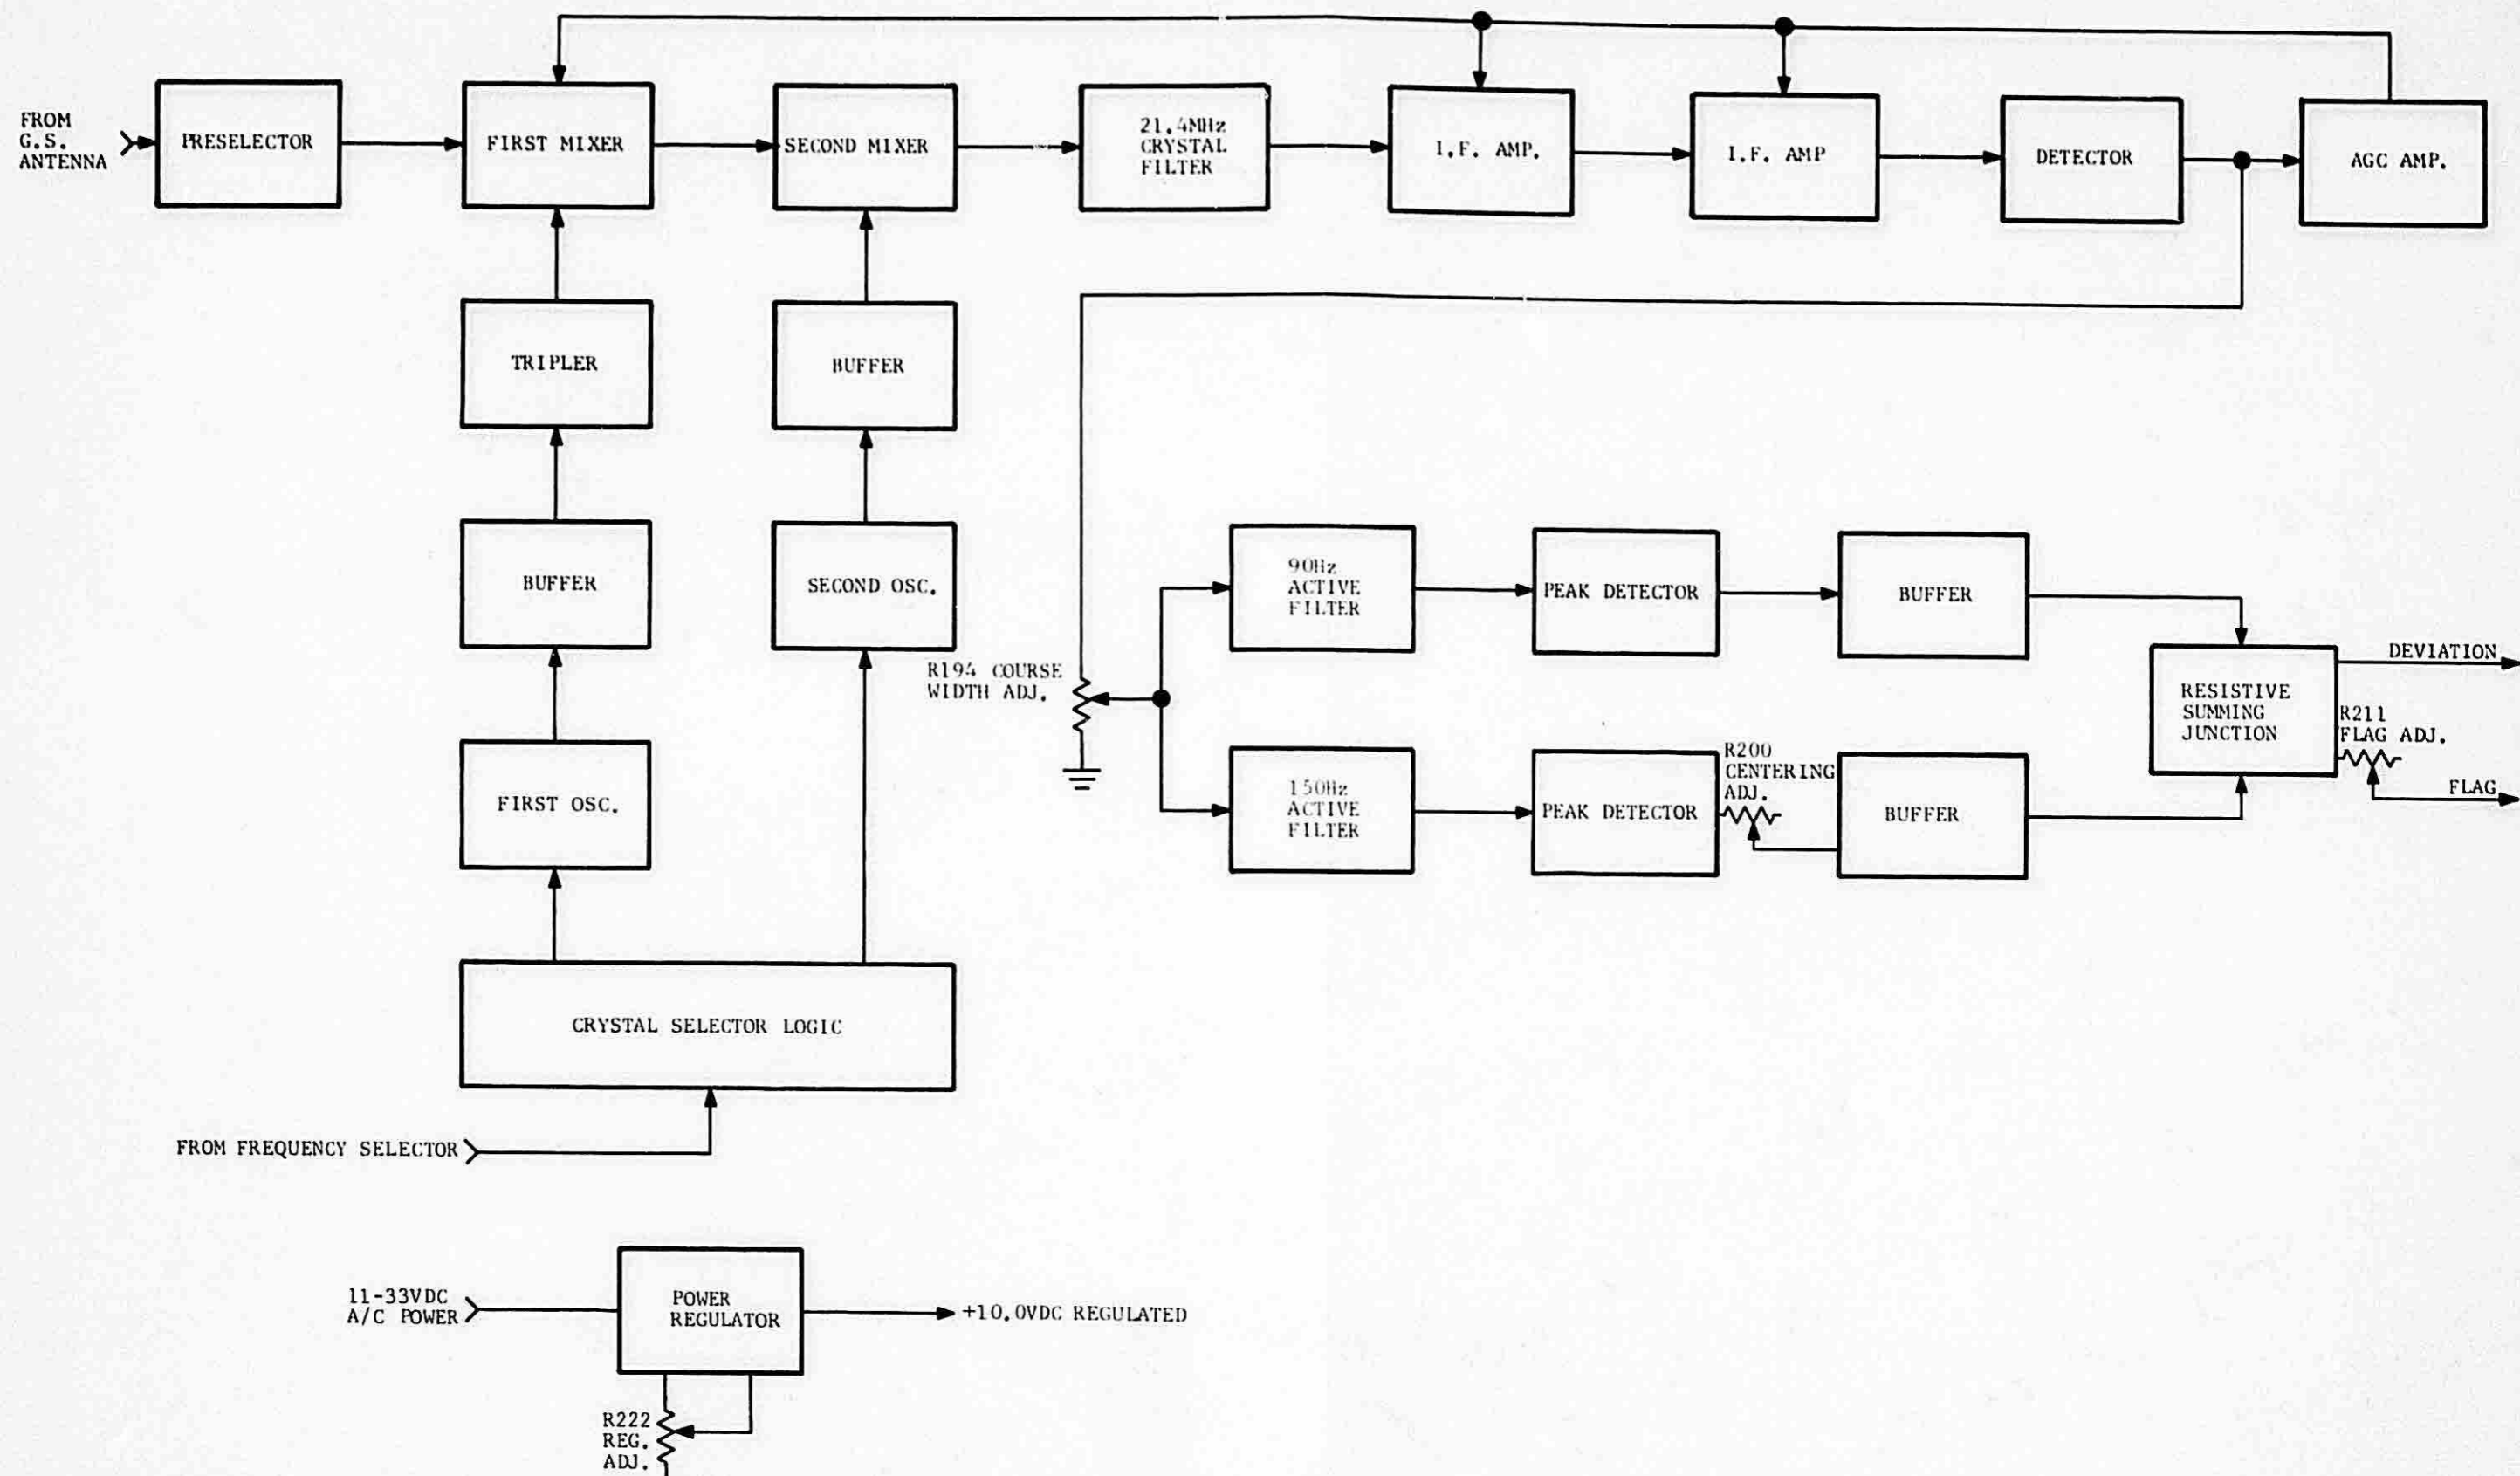

FIGURE 4-2 KN 73 BLOCK DIAGRAM
4.2 BLOCK DIAGRAM CIRCUIT THEORY (Figure 4-2)